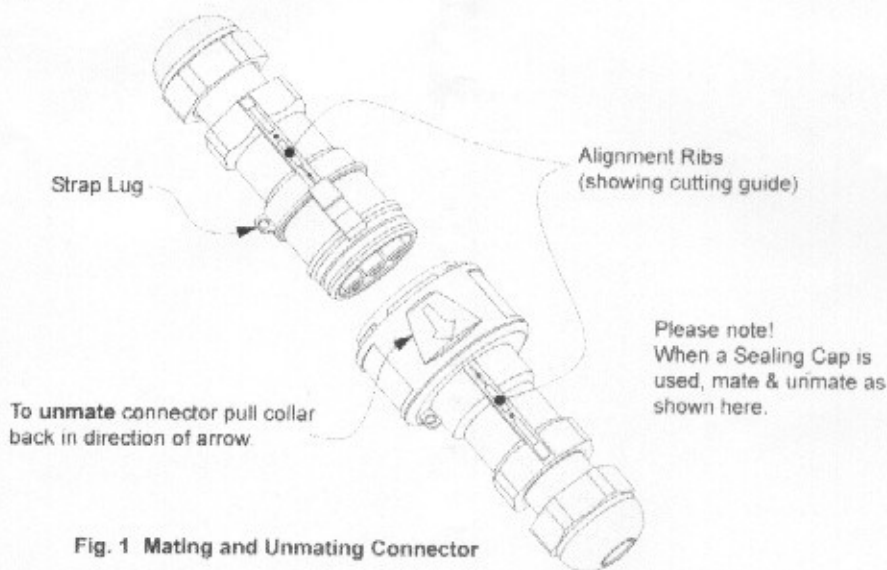
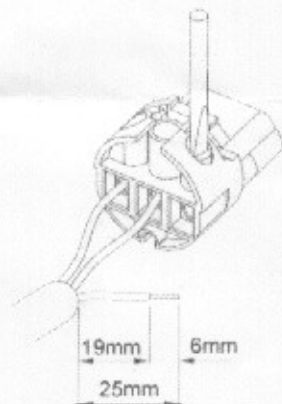

Fig. 1 Mating and Unmating Connector
Fig.3 Cutting Length
- 4 Strip outer cable sheath for 25mm, and the conductor insulation for 6mm (see Fig. 3) indicated on Alignment Ribs (see Fig. 1 overleaf)